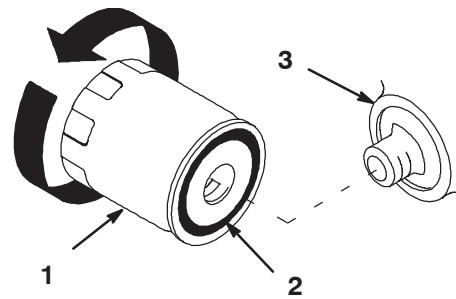

Figure 22
- Remove the old filter and wipe the filter adapter (Fig. 22) gasket surface.
- Apply a thin coat of new oil to the rubber gasket on the replacement filter (Fig. 22).
- Install the replacement oil filter to the filter adapter. Turn the oil filter clockwise until the rubber gasket contacts the filter adapter, then tighten the filter an additional 1/2 turn (Fig. 22).